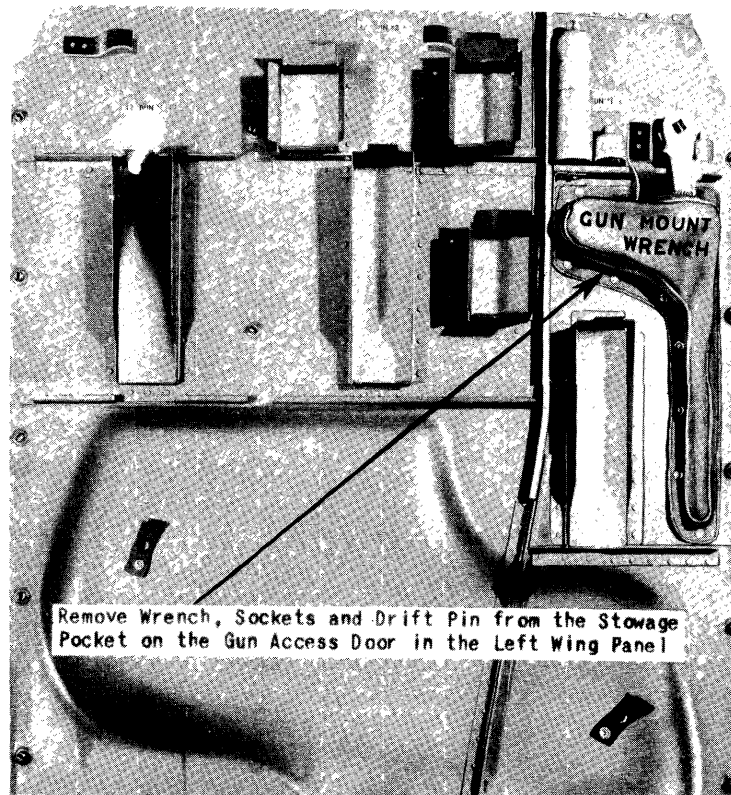

Figure 11 - Gun Access Door - Left Wing Panel
(7) Remove the wrench, sockets, and drift pin from the stowage pocket on the inboard side of the gun access door in the left wing. (See figure 11.)